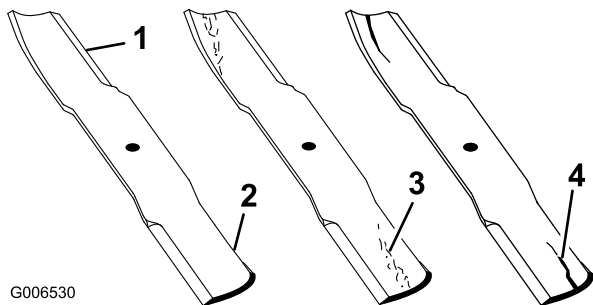

Figure 45
1. Inspect the cutting edges (Figure 45). If the edges are not sharp or have nicks, remove and sharpen the blades. Refer to Sharpening the Blades.
2. Inspect the blades, especially the curved area (Figure 45). If you notice any damage, wear, or a slot forming in this area, immediately install a new blade.